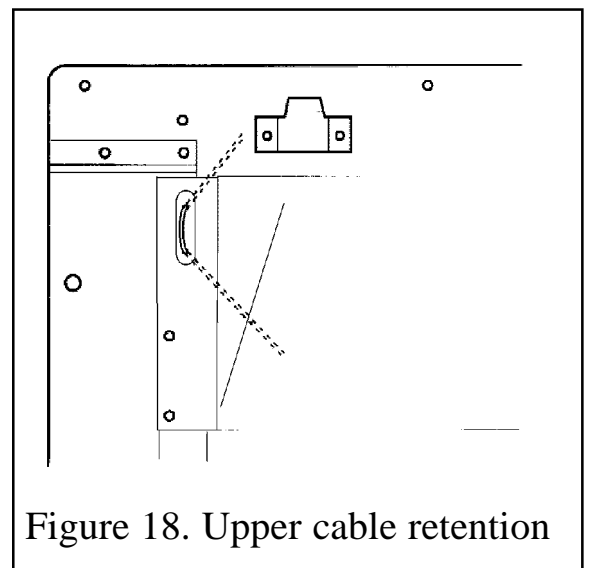

Figure 18. Upper cable retention
5. The hotbox has two holes at each side of the spillage plate. Insert one end of each cable (one cable each side) from the back through the lower of the two holes and return the end through the upper of the holes (See figure 18). Give the cables a pull